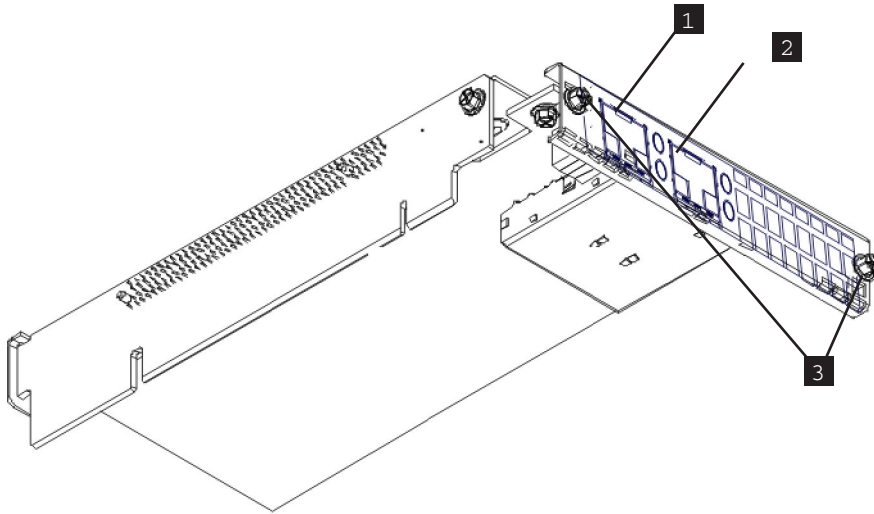

Figure 191. SAN Volume Controller 2145-CG8 10 Gbps Ethernet riser-card assembly with cutaway view of back rail
6. Anchor the Ethernet riser-card assembly using two fastening screws from the back of the node, as shown in the cutaway view of a section of the rail in Figure 191 on page 206.